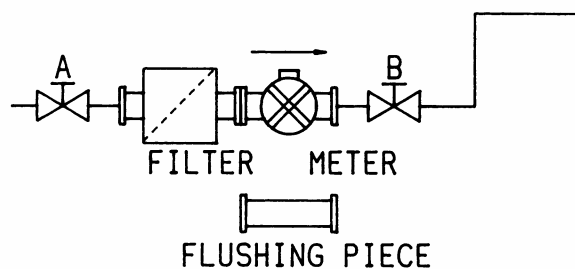

Fig. 18, Flowmeter system without bypass
1. Close valves A and B (Fig. 18).